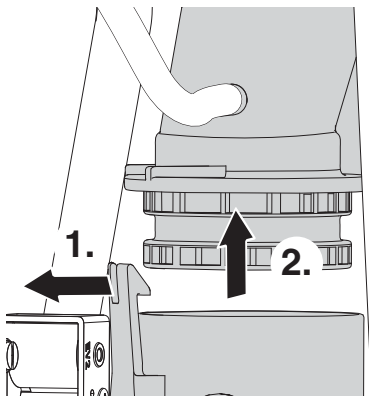

Fig. 86 Release lower exhaust connection
1. Refer to figure 86 and release the clip.